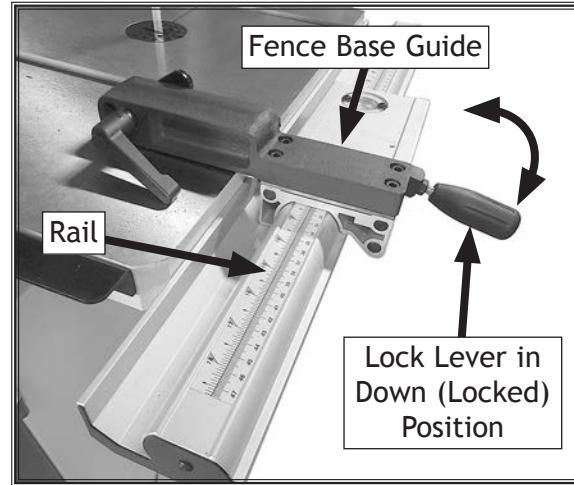

Figure 28. Fence base installed on fence rail.
12. Place fence base guide on fence rail with lock lever raised up. Push lock lever down to secure fence in place (see **Figure 28**).